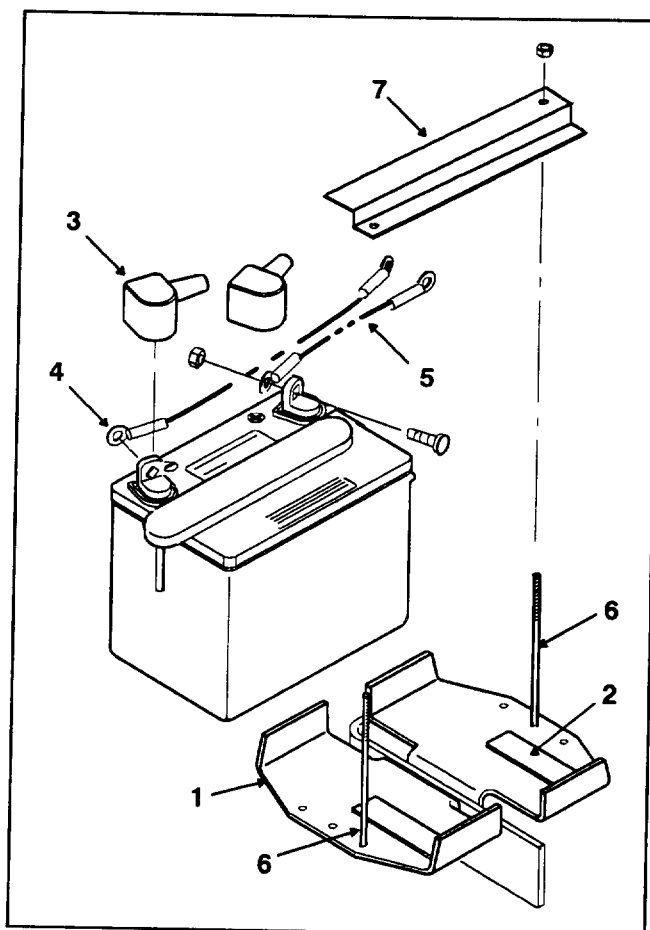

Figure 14
4. Position battery onto holder with terminal posts toward engine (Fig. 14).
7. Mount battery to holders with (2) support rods, a battery clamp and (2) locknuts. Position support rods in mounting holes as shown in fig. 14. Tighten locknuts so battery is held securely in position and will not slide. DO NOT OVERTIGHTEN.